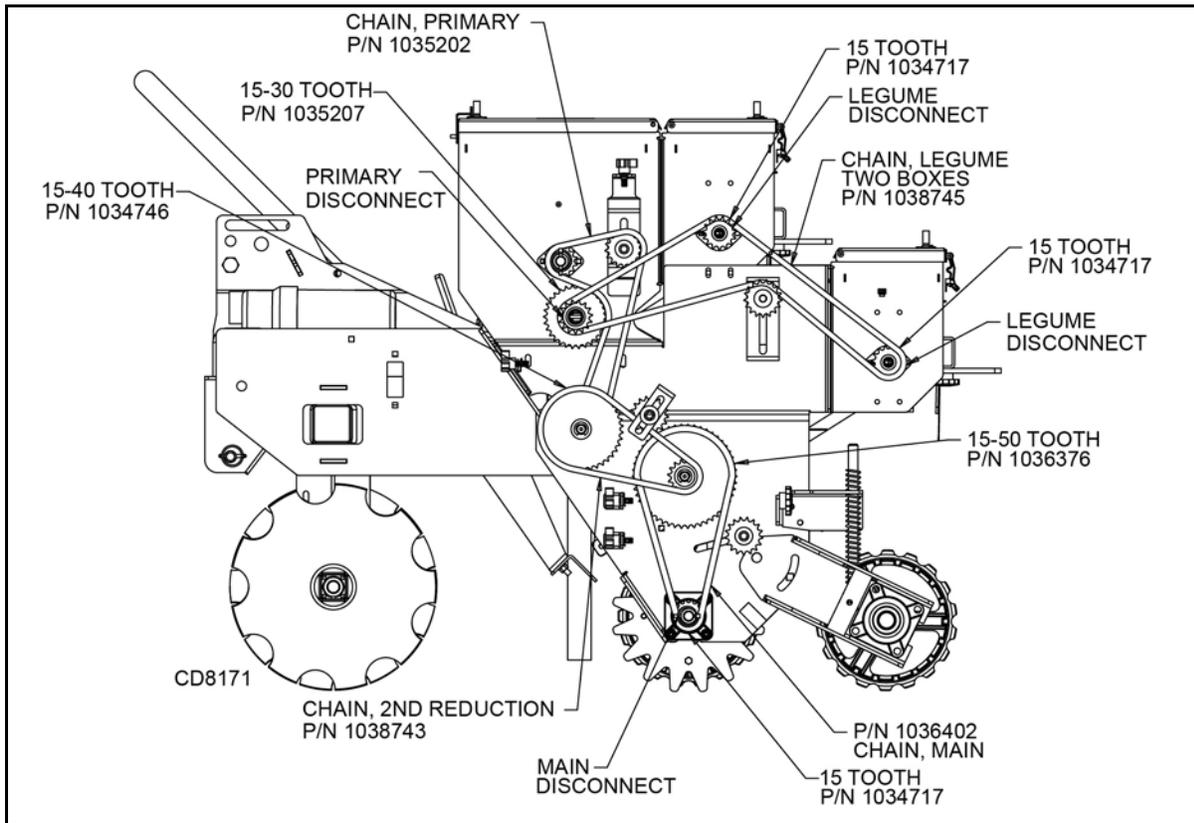

Figure 19.Chain Drive - Two Legume Boxes
4. Disconnect seed box from seeder chain drive by removing pin from seed box driven sprocket (Primary or Legume). See Figure 19.